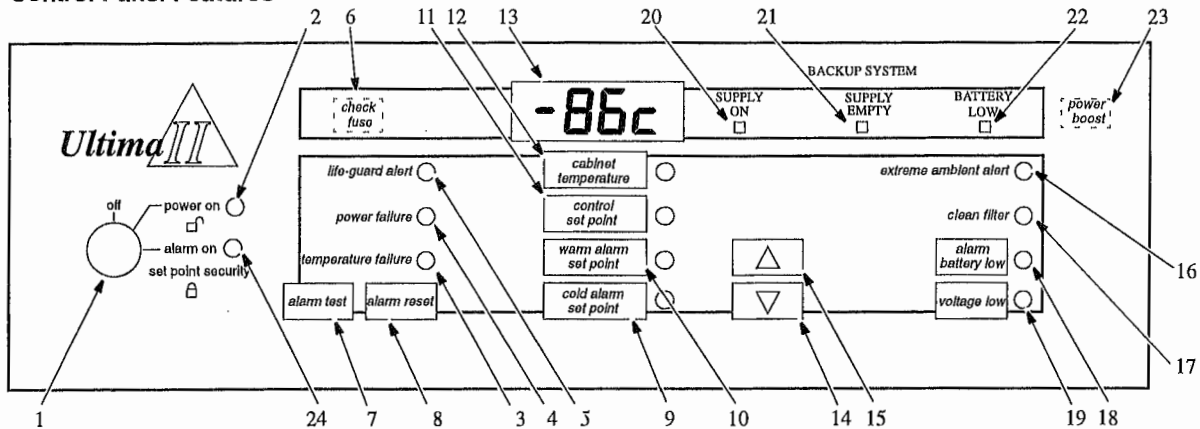

Figure 2. Ultima II 900 Series Control Panel with Optional Backup System
Before the initial start up, take some time to become familiar with the controls on your freezer. Figure 2 illustrates the Revco Ultima II Chest and Upright Freezer control panel.
Note: Figure 2 shows all possible functions. These functions vary depending on the model and options. You may not have all of the functions on your equipment. Elite models do not include the Check Fuse indicator light (6) or the Power Boost light (23) as these models do not come standard with these options. Likewise, only Ultima II models will include the Set Point Security feature (24), Life-Guard Alert indicator light (5), and the Extreme Ambient Alert indicator light (16). The CO₂ or LN₂ Backup System lights (20, 21, 22) represent status indicators for a built-in CO₂ or LN₂ backup system, which is optional on Ultima II, Ultima or Elite models.
Refer to Section 7.1 and Figure 2 on page 4 as you complete the following procedures.